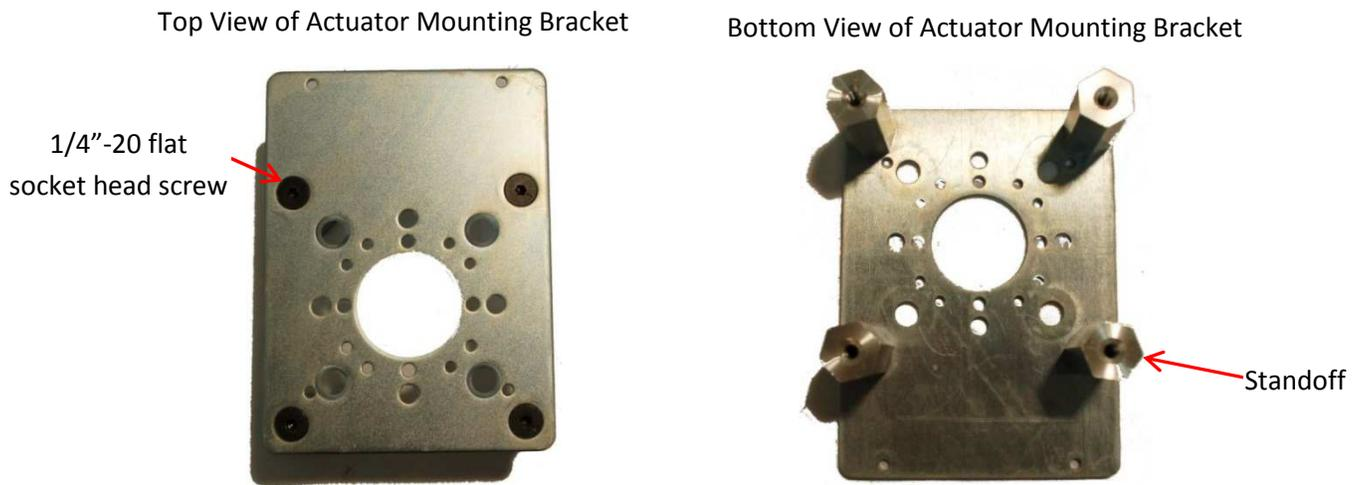

Figure 11: Standoffs Mounted
6. Mount the four standoffs to the actuator mounting bracket using the four 1/4"-20 flat socket head screws, the 5/32" hex key, and the 3/4" open end wrench. Use blue Loctite (#242) on the four screws. The screws should go through the four outermost holes on the actuator mounting bracket as shown in Figure 11.